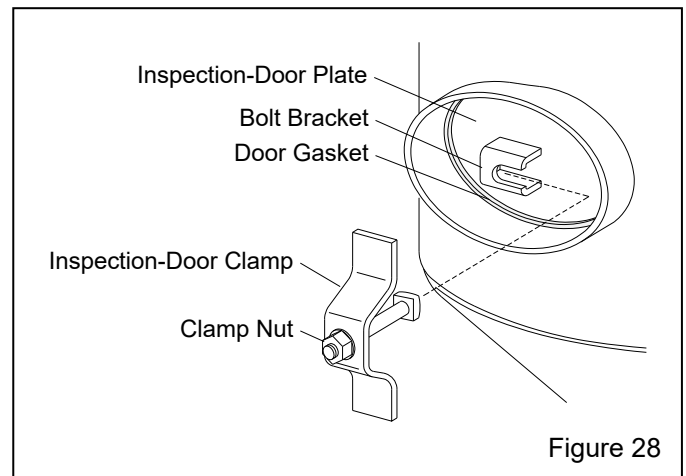

Figure 28
1. Loosen the inspection-door clamp nut enough to slide the clamp bolt from behind the bolt bracket and then remove the clamp and bolt assembly, as shown in Figure 28.